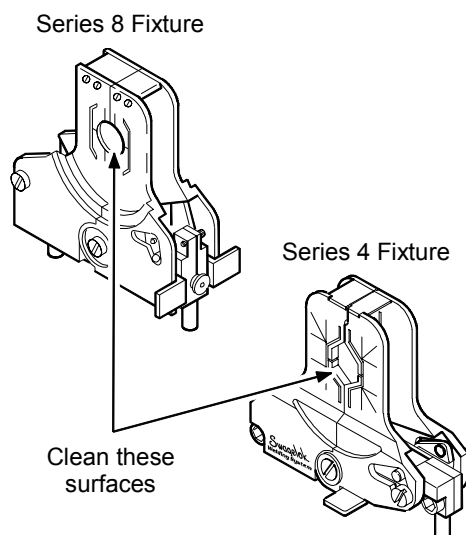

Figure 24 Cleaning the Micro Weld Head Fixtures
1. Clean the surfaces of the fixture that contact the work pieces. Use the wire brush included in the micro weld head tool package. See Figure 24.